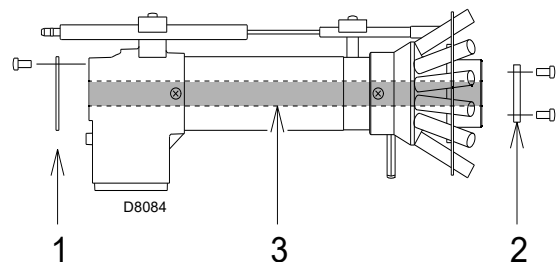

Fig. 19
- remove the inner tube 3)(Fig. 19) and install the discs 1) -2) supplied as equipment.